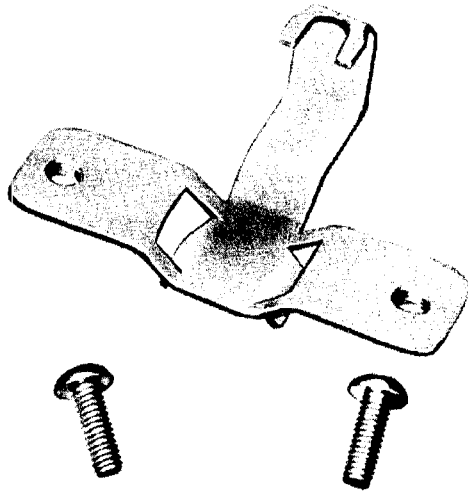

Fig. 9—90A Bracket
3.03 The 90A Bracket is a formed metal bracket (Fig. 9).